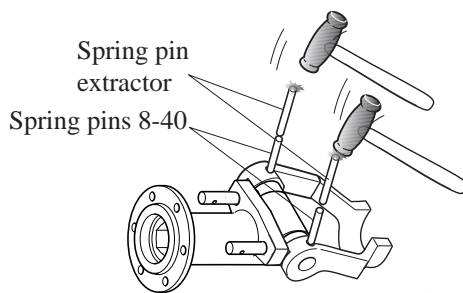
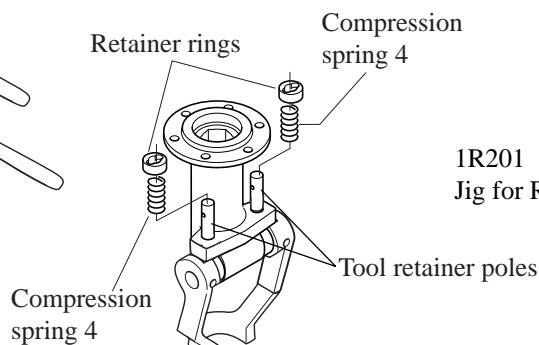
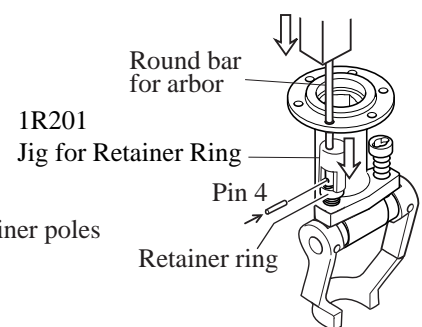

Fig. 20
Fig. 21
Fig. 22
- (2) Mount spring pin 8-40 as illustrated in Fig. 20. Mount compression springs 4 and retainer rings to tool retainer pole as illustrated in Fig. 21. Put the jig for retainer ring on retainer ring and pressing the jig with arbor press, mount pin 4. See Fig. 22.